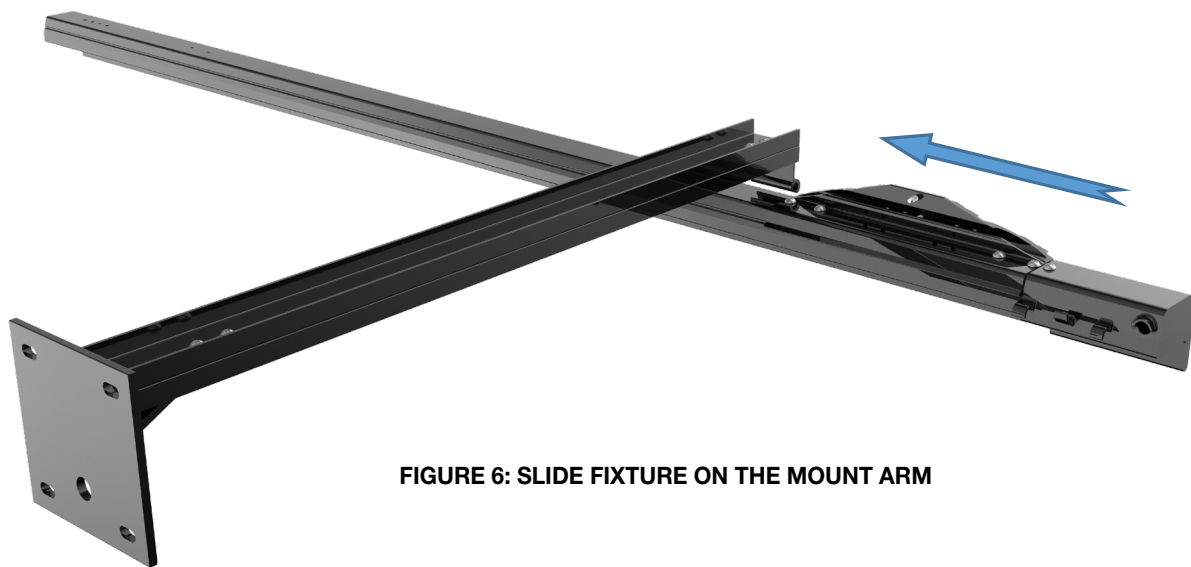

FIGURE 6: SLIDE FIXTURE ON THE MOUNT ARM
2. Slide the Fixture Assembly onto its associated Mount Arm as shown in Figure 6.